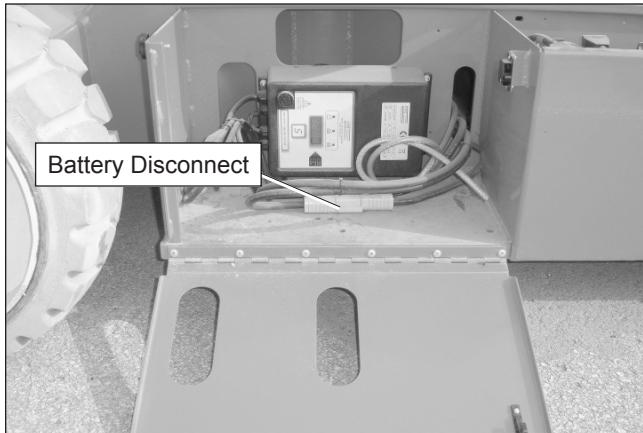

Figure 8.3 – Battery Disconnect Panel
- Turn the battery disconnect switch on (refer to Figure 8.3).
- After a short delay, visually inspect the battery charge indicator for proper charging rate (refer to Figure 8.3).